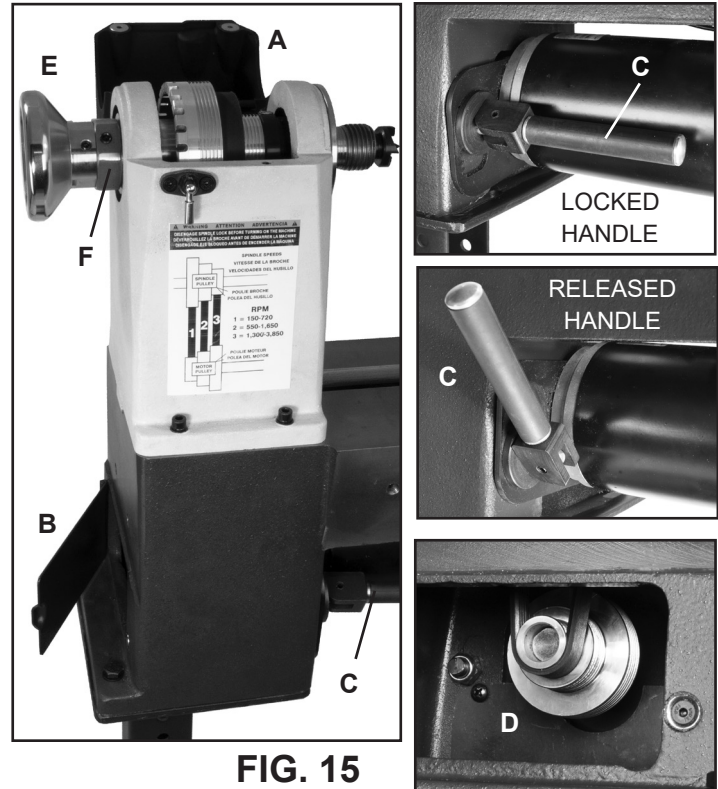

FIG. 15
1. To remove the Handwheel (#28B), loosen the 2 Set Screws. Then use the 38mm Wrench on the flat portion of the Handwheel and 46mm Wrench on the large Locking Nut (#27B) to loosen the handwheel from the spindle. Rotate the handwheel counter-clockwise to fully remove it from the spindle. See Figure 15, parts E and F on page 14.
2. Open the top Headstock Cover (#14B, FIG. 15, A) and the left side, Bed Cover Plate Door (#5A, B) to gain access to the belt and pulleys that are inside of the headstock.
- Pull the handle forward to unlock. FIG. 15, C.
4. Remove the Belt (#29B) from the lower Motor Pulley (#10A; FIG. 15, D). **NOTE:** If the belt is not to be saved, the old belt can be cut off at this time.
5. To remove the Handwheel (#28B, FIG. 15, E), loosen the 2 Set Screws. Then use the 38mm Wrench on the flat portion of the Handwheel and 46mm Wrench on the large Locking Nut (#27B, FIG. 15, F) to loosen the handwheel from the spindle. Rotate the handwheel counter-clockwise to fully remove it from the spindle.